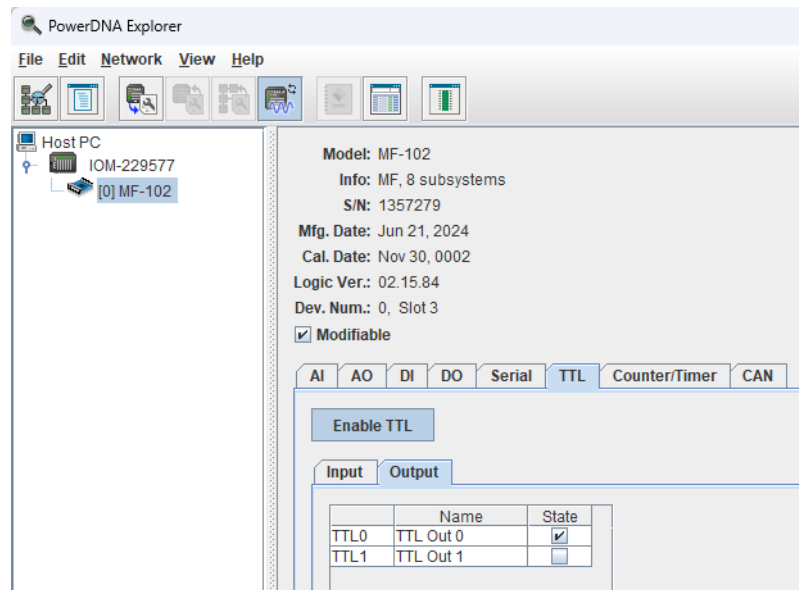

Figure 3-17 PowerDNA Explorer TTL Tab, Output Subtab
3.9.2 Write TTL Data The TTL Output subtab (Figure 3-17) contains the following columns: